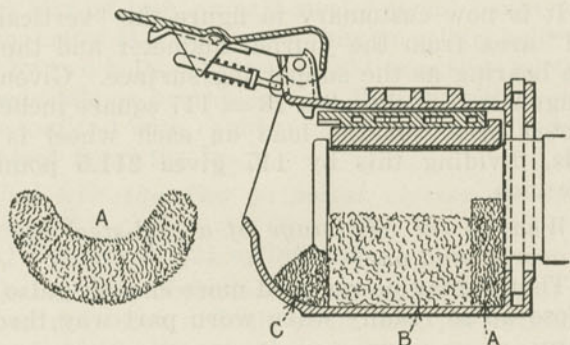

Fig. 258. Proper Packing.
A. As clearly shown in Fig. 258\* the first packing should be made into a tightly twisted roll or pad A and firmly packed in the back of the box against the journal shoulder and dust guard, to keep the oil in and the dust out. Then the lubricating space should be packed with good-sized balls, firmly enough to resist being shaken down by shocks. The side packing should be loose and the strands on the sides where the journal leaves, carefully turned down under the mass to prevent its being pinched between journal and brass. None should be put above the axial line of the journal. The journal should